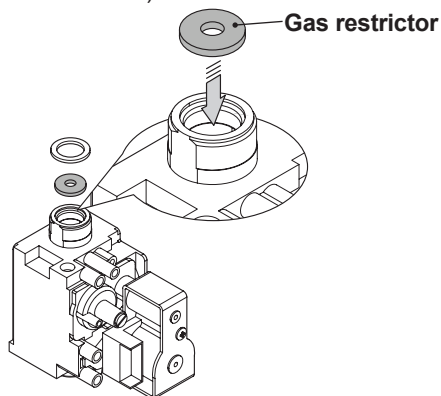

Fig. 9.2
- Carry out gas conversion by correctly replacing the gas restrictor (Fig. 9.2), referring to the "Technical Data" section (page 26 **ADVANCE 30C** and page 30 **ADVANCE 35C**).